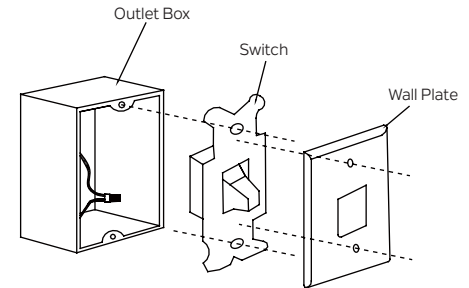

Fig. 25
Step 1. Remove the existing wall plate and the old switch from the wall outlet box. Wire the BLACK leads (hot) together with connector and push back inside the outlet box. (Fig. 25)